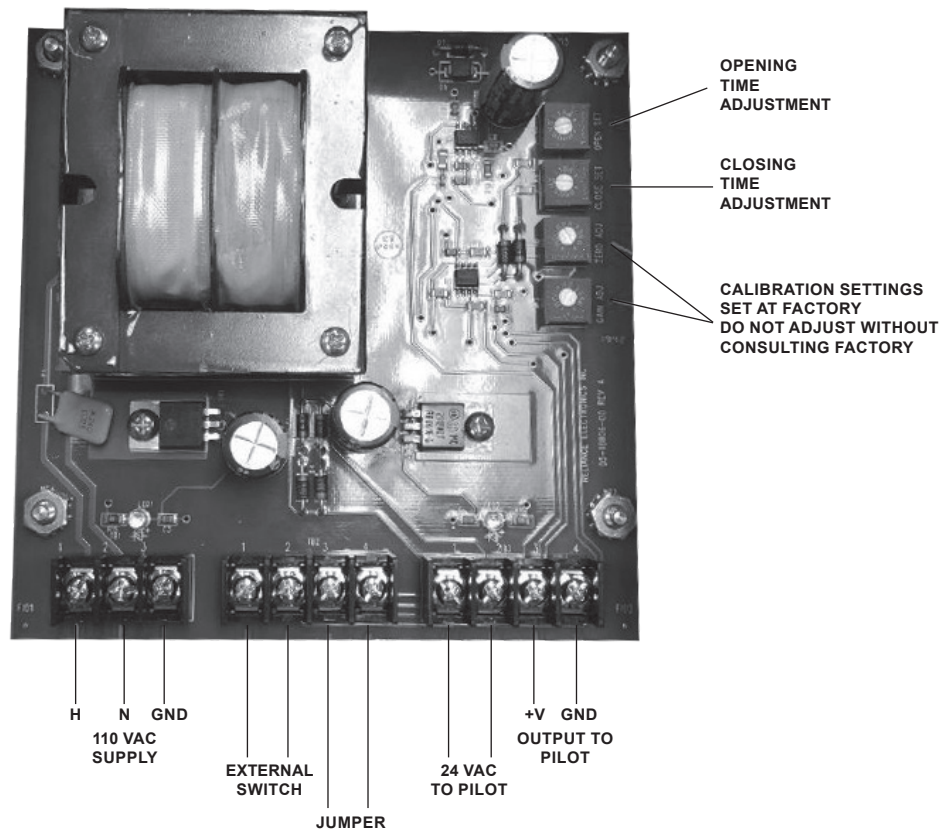

Figure 3. Electronic Time Controller Settings and Connections
2. Open the ETC, and locate the setting controls for Start Up and Shut Down, See Figure 3.